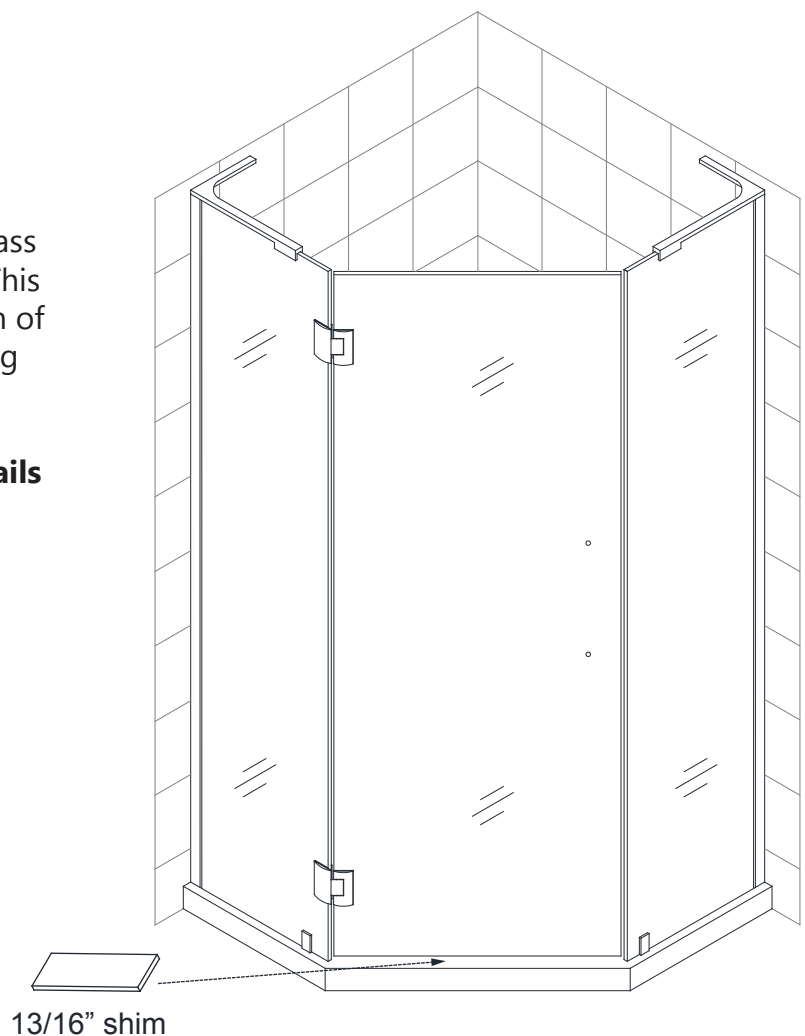

**Fig 13**
**See Fig 13 & 14 for details**